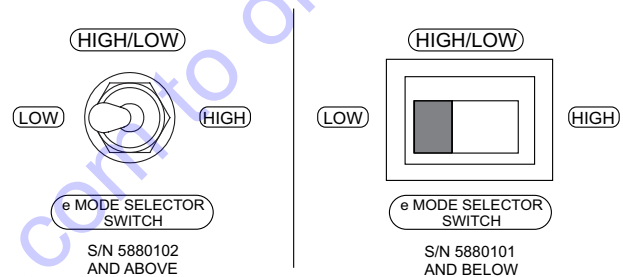

Figure 36. E-Mode Selector Switch (CC Mode)
3. Place e-Mode selector switch (Figure 36) in the desired position as defined by Table 21. This switch is a 3-position **toggle** switch (S/N 5880102 and above) or 3-position **rocker** switch (S/N 5880101 and below).